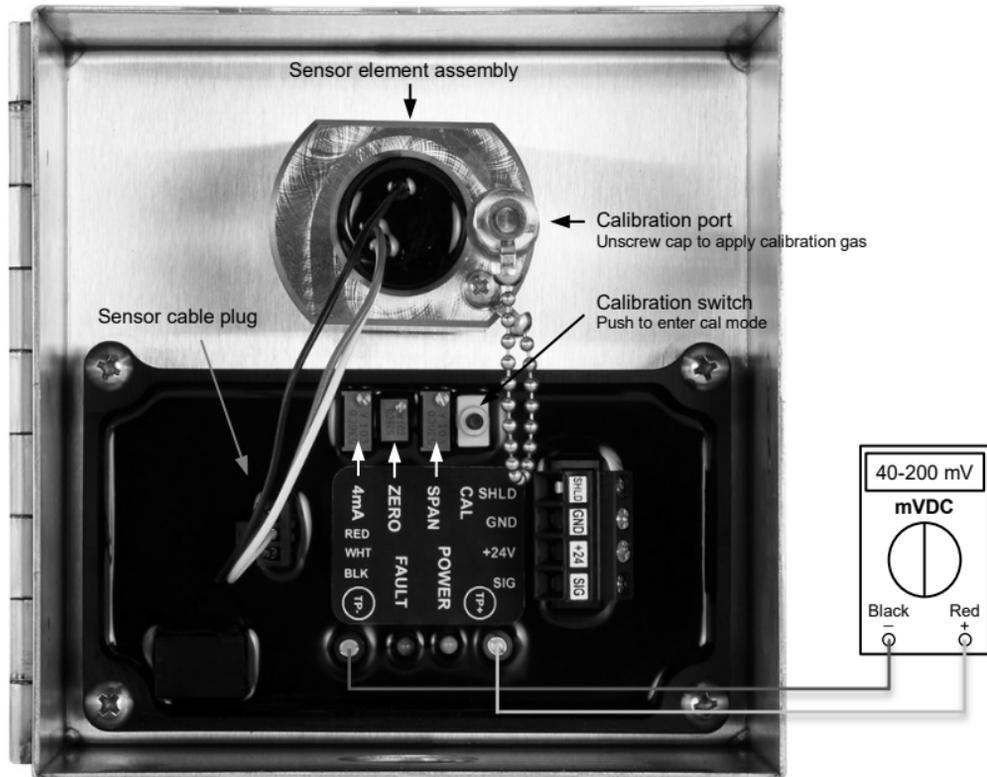

Figure 4: Transmitter and sensor assembly
The GG-VL2-NH3 sensor comes factory calibrated and should require only minimal adjustments after installation. Calibration should be performed every six months. There are two pots on the preamp that are used for calibration (see **Figure 4**).
- Adjust the zero pot until the sensor outputs 40 mVdc from Test [-] to Test [+] (see **Figure 4**).
**Span Calibration:** Do not adjust the span pot without certified calibration gas! If span adjustment is required, use the following procedure (see **Figure 4**):
When the sensor becomes faulty, a replacement sensor element can be obtained from Calibration Technologies. To replace the sensor, refer to **Figure 4** and the following procedure.